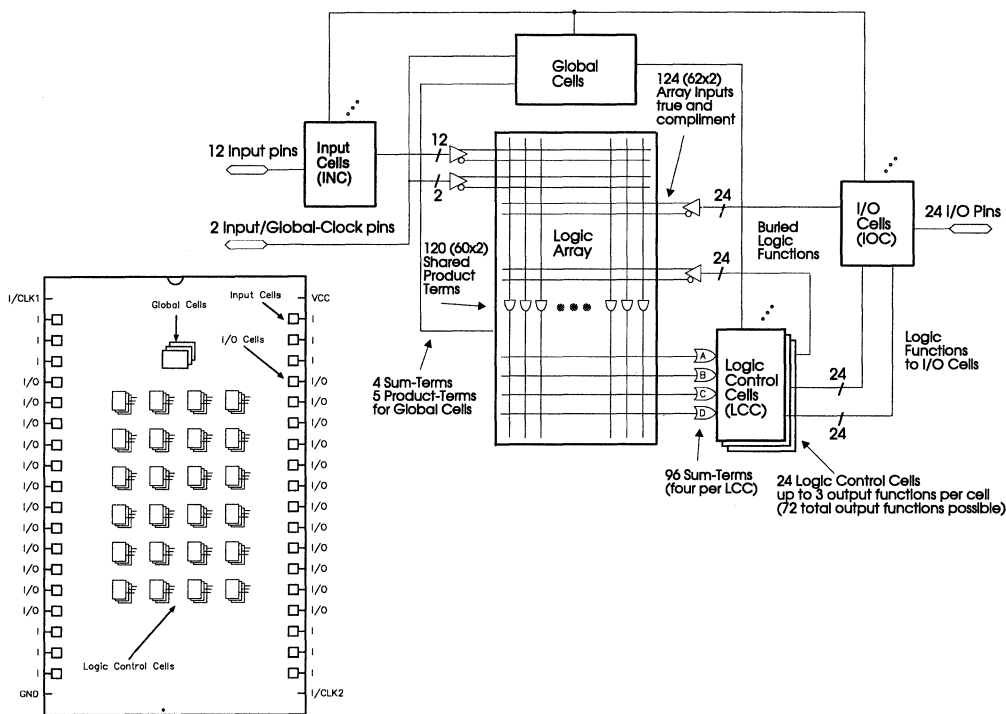

Figure 4. PA7140 architecture and block diagrams
Offering more pin and logic density than the PA7024 or PA7128, the PA7140 architecture consists of 24 I/O pins, 14 input pins and 60 registers/latches (24 LCC, 24 IOC, 12 INC), see figure 4. The PA7140 logic array has 100 sum-of-product logic functions that can share up to 60 each of 120 product terms. The 24 LCC's are divided into two groups (group A and B) each with 12 LCC's. Each LCC group can fully share half (60) of the 120 product terms available for sum-of-product logic functions. As with the PA7128, the PA7140 multi-function logic cells offer up to three outputs per cell for a total of 72 possible output functions (48 of which can be buried). The PA7140 also has a special global cell feature to preload and unload buried registers for test purposes. The PA7140 can implement designs that exceed the architectural capabilities of devices like the Mach110/210, ATV2500, EPM7032, EPM5064 and EP910. The PA7140 offers propagation delays as fast as 13ns/20ns (internal/external) and synchronous clocking frequencies to 58.5MHz. Power consumption is 150mA max @ 25MHz (100mA typ.). The PA7140 is packaged in 40-pin DIP and 44-pin PLCC.